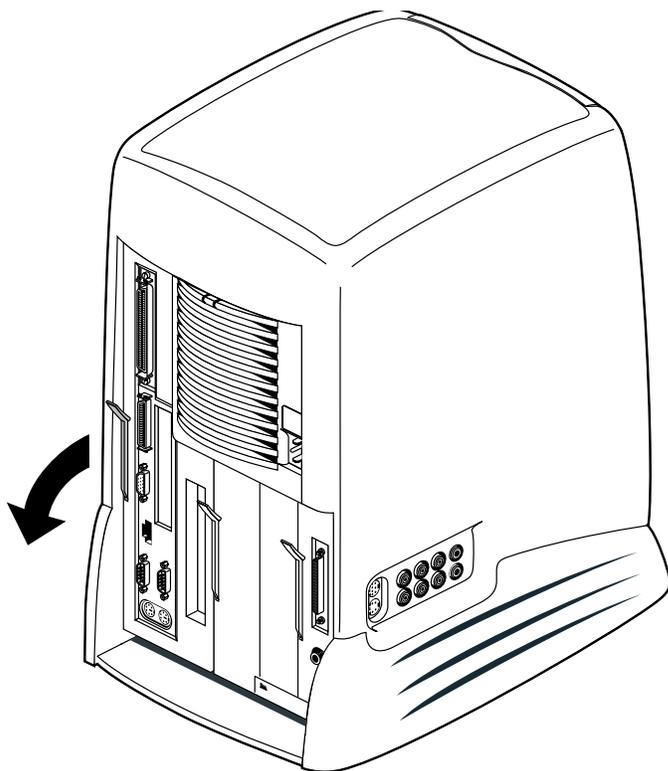

Figure 1-3 Releasing the System Module
3. The system module is on the left as you face the rear. Pull down the lever on the left side of the module to release it (Figure 1-3).